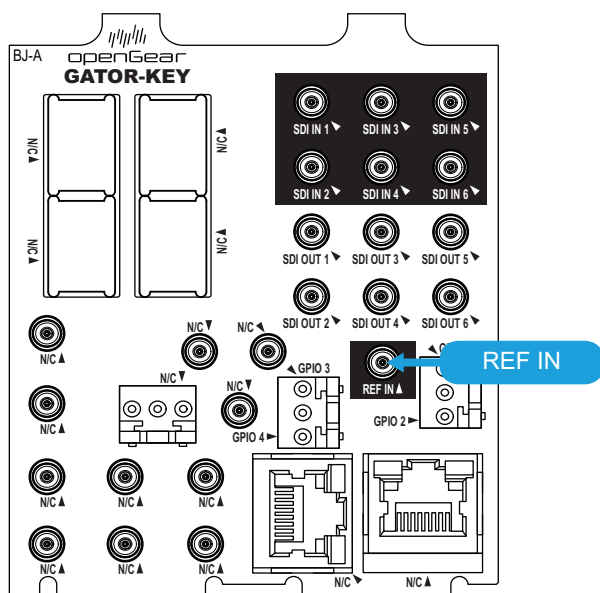
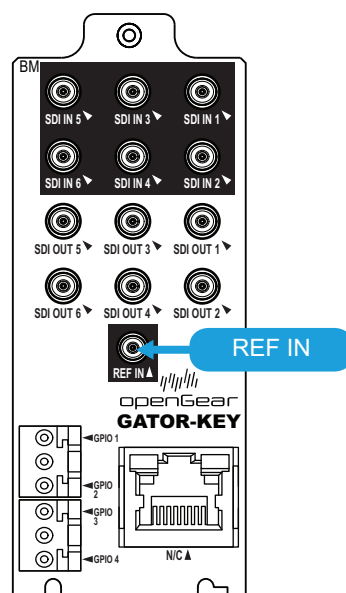

Figure 7 8322AR-317 — REF IN
Figure 8 8323AR-325 — REF IN
1. Connect one end of a Belden cable to the **REF IN** HD-BNC on the GATOR-KEY rear module. Refer to **Figure 7** and **Figure 8**.